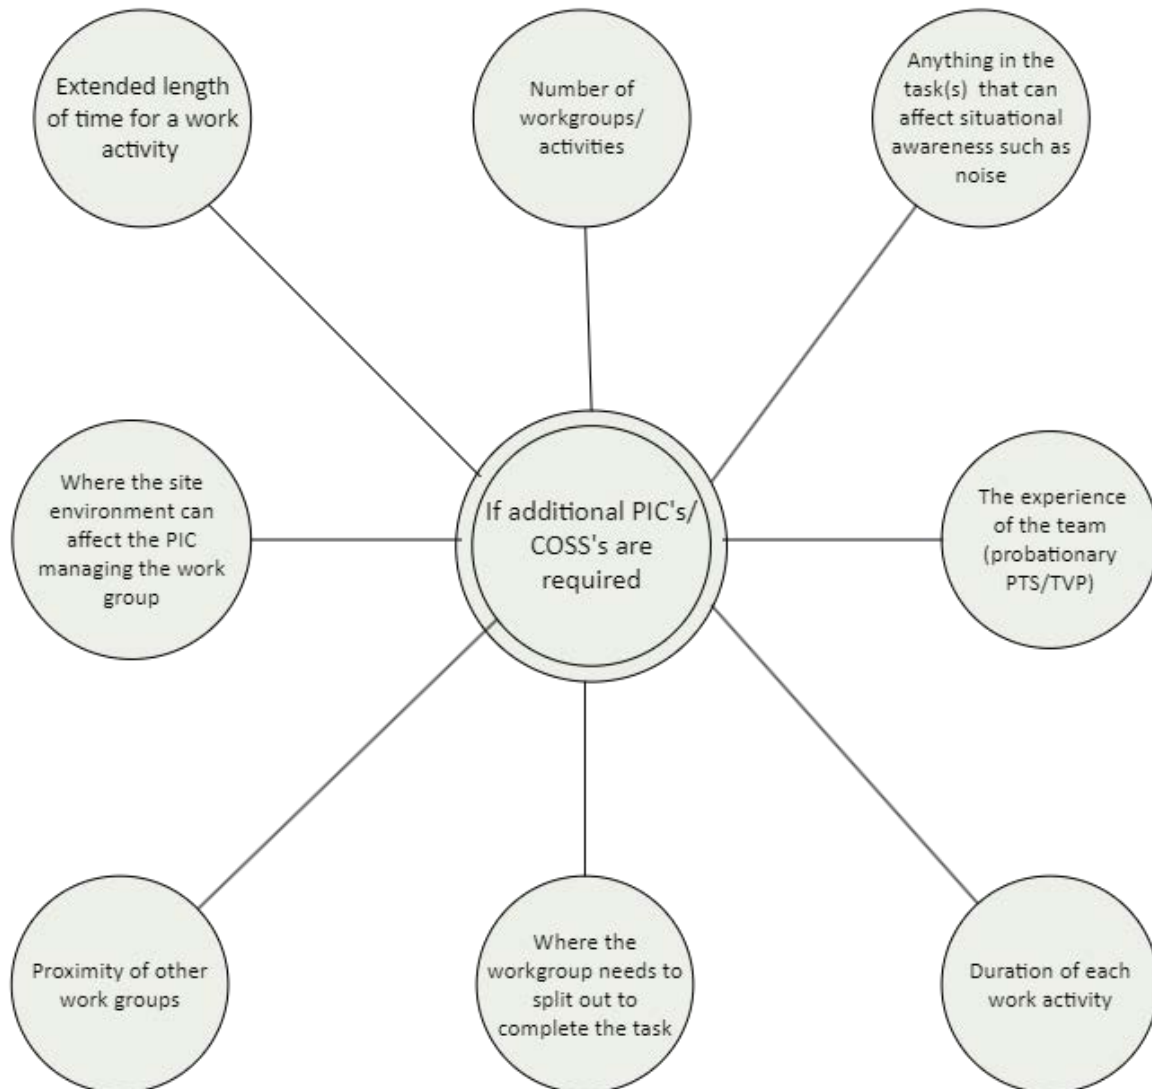

Figure 2 – If additional person in charges/COSSs are required
- 2.7 In addition to 4.2.1 of NR/L2/OHS/019 review Figure 2 and confirm if additional person in charge/COSSs shall be required.